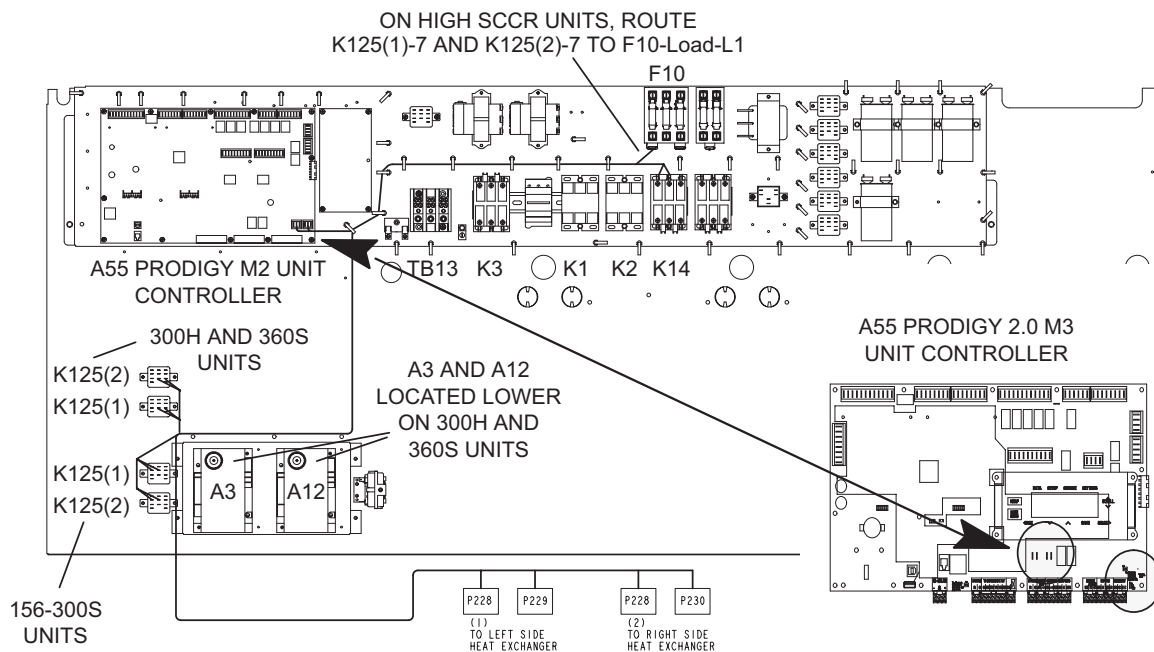

FIGURE 15
- 3 - Install both K125 relays in control area above compressors. Secure with #8 screws. See FIGURE 15.
- 4 - Locate harness labeled 106051-01 for standard SCCR units or 105722-01 for high SCCR units. Route as shown in FIGURE 15. Secure with wire ties. Discard unused harnesses.